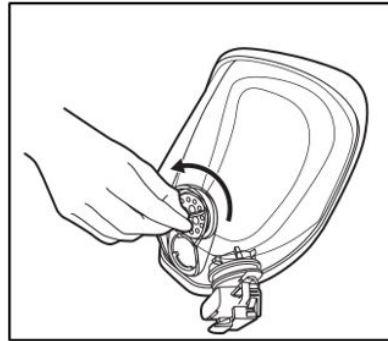

Fig.17
4. Remove speaking diaphragm assembly by turning counter clockwise 1/4 turn (Fig 17).
4. Remove speaking diaphragm by turning counter clockwise 1/4 turn (Fig. 17).